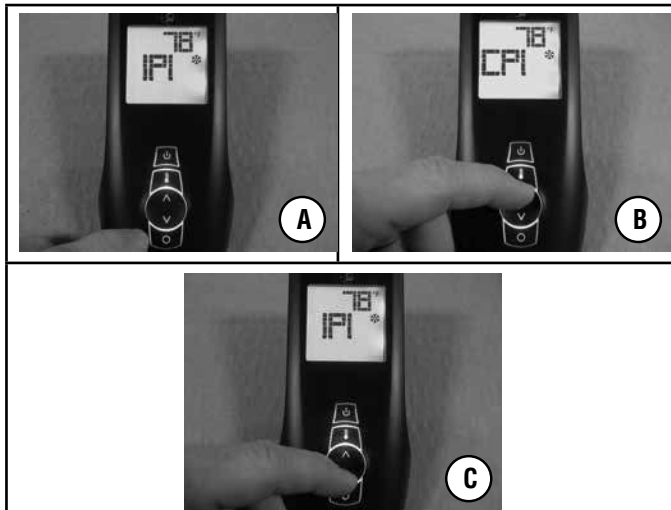

Figure 25 - Remote Control Operation from CPI to IPI Modes
1. With power ON, (A) press "O" on the remote handheld. "IPI" will be on the remote screen. (B) Press UP arrow to move "IPI" to "CPI" and (C) Press DOWN to move "CPI" back to "IPI" (must be completed within 10 seconds). See **Figure 25** and **26**.